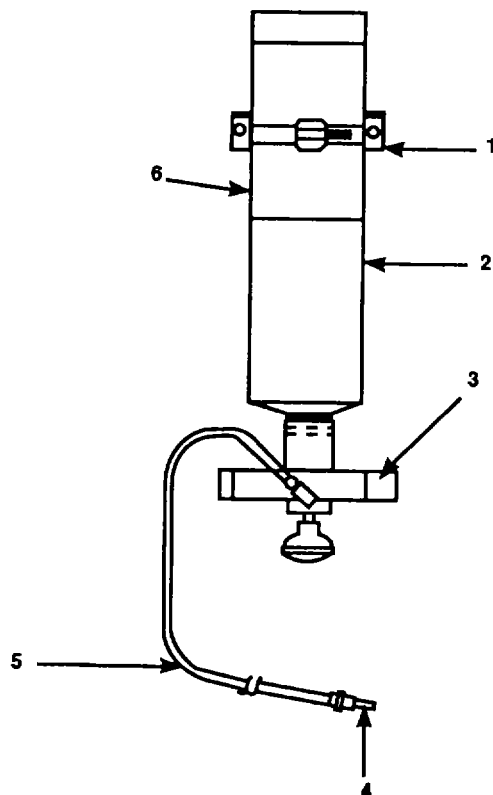

Figure 3-38. Cold Start Aid
- a Remove nozzle (figure 3-38) from intake manifold.